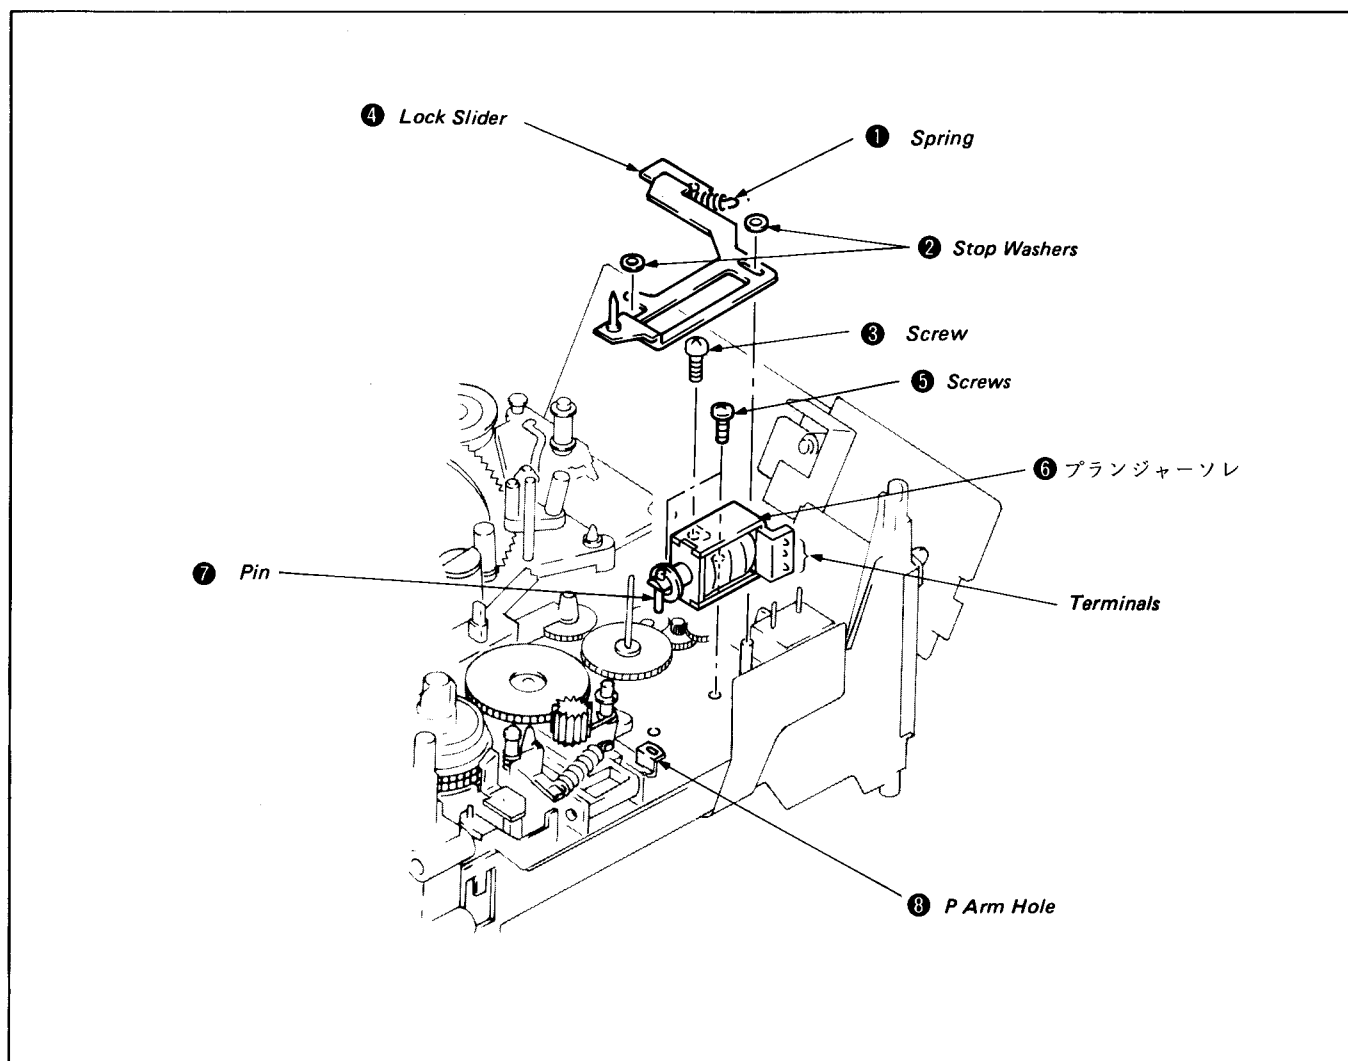

Fig. 8-37.
(See Fig. 8-37.)
- 1) Reinsert the pin ⑦ of the plunger solenoid in the P arm hole ⑧ and tighten two screws ⑤. Be careful not to inflict scars on the T reel table by a screwdriver or touch it.)
- 2) Solder 3 sections of the terminal of the plunger solenoid ⑥.
- 3) Remount the lock slider ④ and tighten the screw ③.
- 4) Refit the two stop washers ②.
- 5) Refit the spring ①. (See Fig. 8-37.)